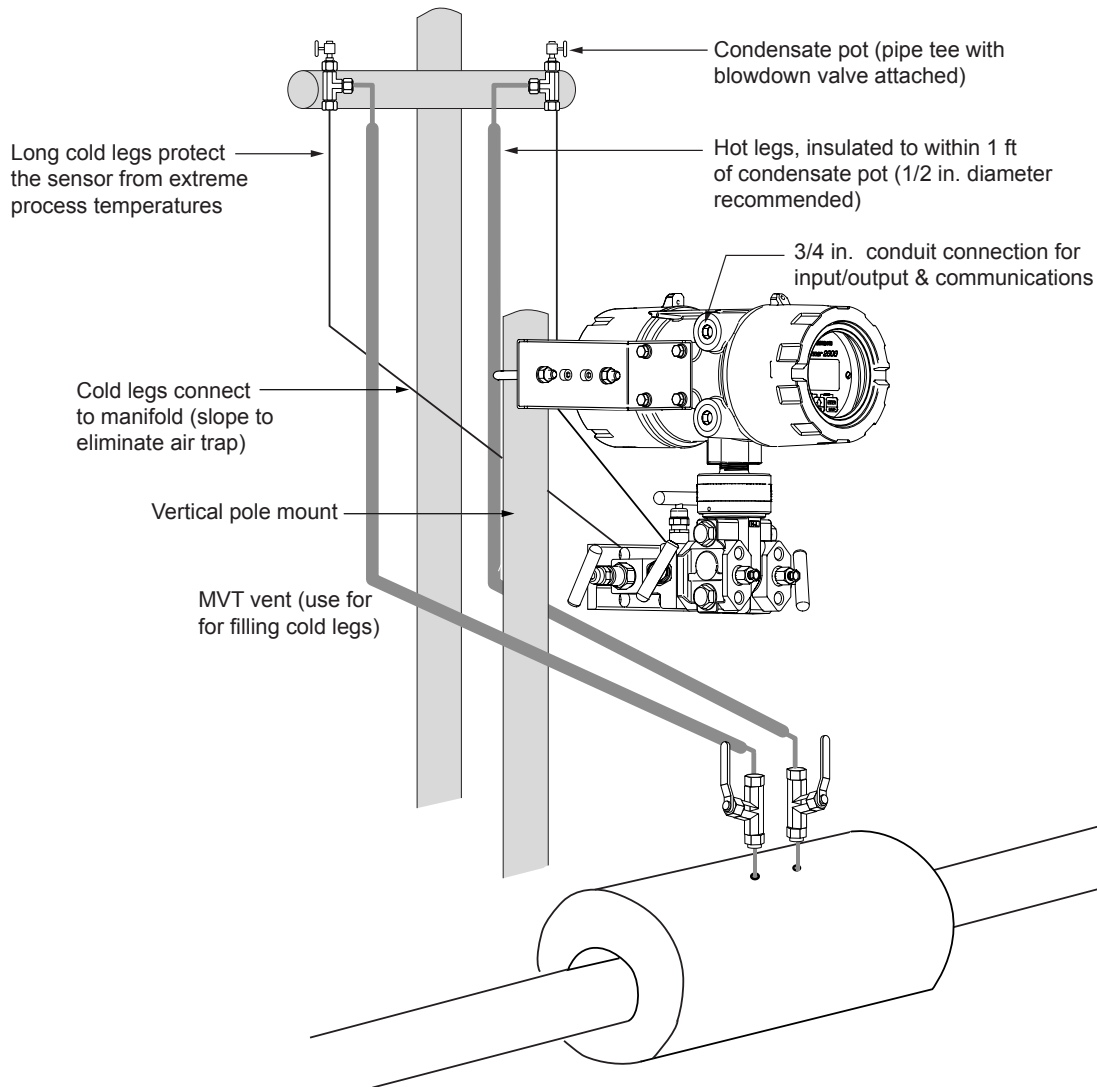

Figure 2.11—Remote-mount steam run installation (shown here with a cone meter). The remote-mount method can be used with an orifice meter as well.
**CAUTION** When measuring steam, process connections must be designed to eliminate air pockets. This is achieved by making sure all tubing in the cold legs slopes upward. A side-port MVT and block manifold (shown in Figure 2.11, page 43) is recommended to help prevent air bubbles from being trapped in the sensor.